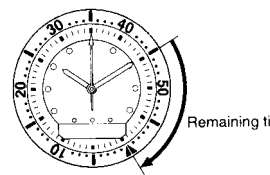

Fig. 2
2. If the current time is 10:10, the remaining time is 15 minutes (60 minus 45) as calculated from the register-ring (fig. 2).